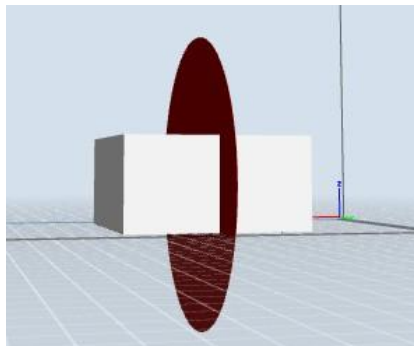

Figure 6 X plane cutting interface
② **X Plane**:As shown in Figure 6.